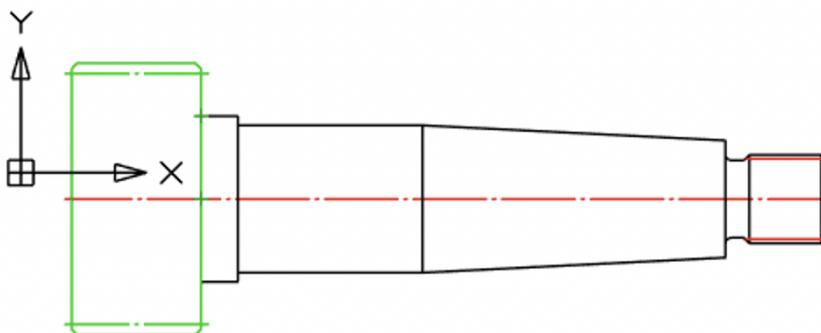

Fig. 14. Shaft with gear
2.3.5. Click **OK** to confirm. The gear model is drawn now (Fig. 14). The command to create a gear remains active. Right click or press **Esc** on the keyboard.